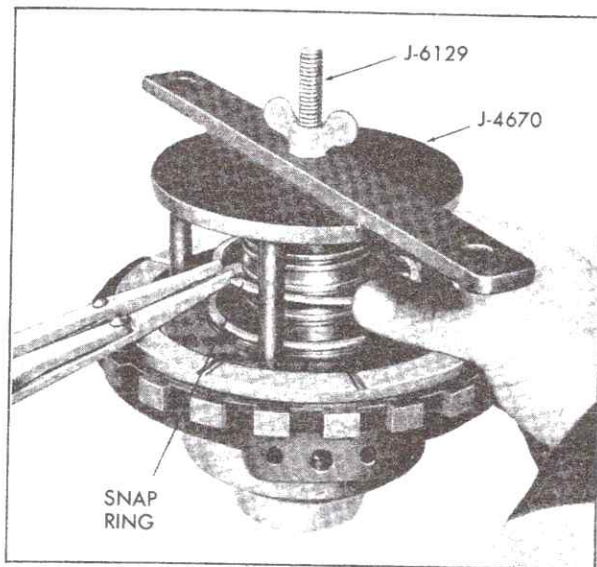

Fig. 7-173 Removing and Installing Intermediate Clutch Piston Snap Rings
c. Using Clutch Spring Compressor, J-4670, and Rear Clutch Spring Compressor, J-6129, Fig. 7-173, compress spring retainer and remove snap ring with Snap Ring Pliers, J-8059 or J-5586.
e. Using Clutch Spring Compressor, J-4670, and Rear Clutch Spring Compressor, J-6129, Fig. 7-173, compress spring retainer, being careful that retainer does not get caught in snap ring groove, and install snap ring with Snap Ring Pliers, J-8059 or J-5586. Remove tools.